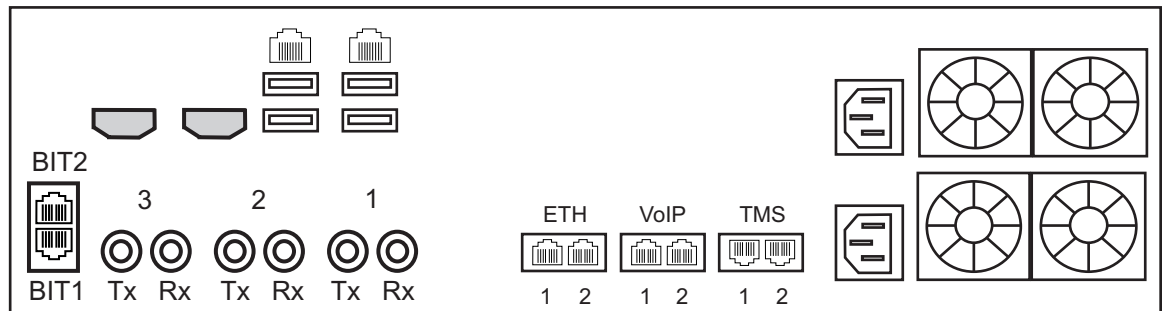

Figure 2.7
A TMG5800 with 3 sets of BNC connectors enables the connection to DS3 lines. See figure 2.7 on page 17
1. Start with the Dual BNC port pair #1 (right-most) as shown in figure 2.7 on page 17. Connect one pair of BNC cables between this port and the DS3 line.